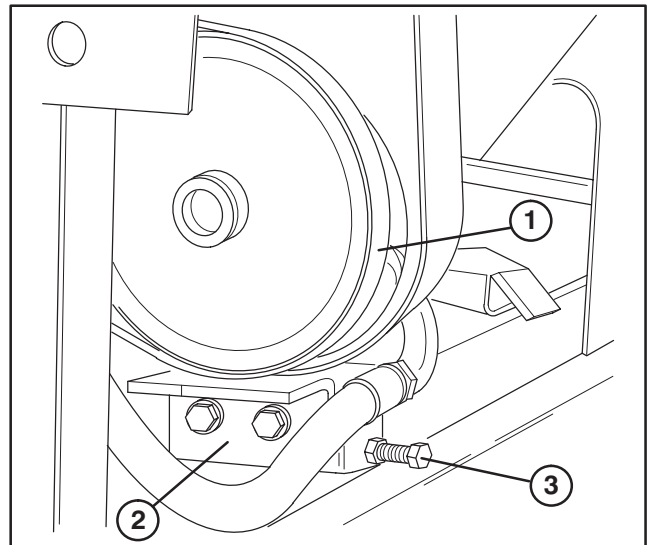

Figure 30
1. The belt tension on the hydraulic pump (Fig. 30) must have a maximum deflection of 5/32 of an inch with a 2 to 3 pound load applied.
- B. To adjust tension, loosen (2) capscrews securing pump support bracket to chassis (Fig. 30).